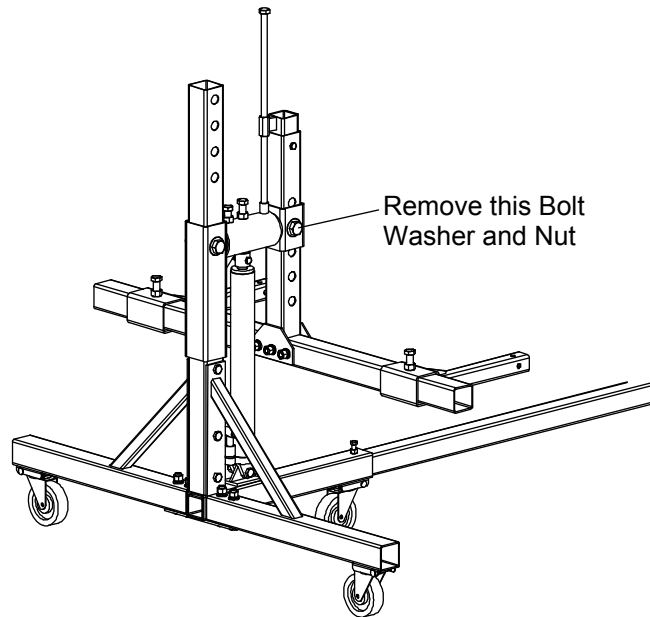

FIG. 6
16. Apply pressure with the Balancer so you can remove the Bolt, Washer and Nut that holds the swing arm in place, Fig. 6.